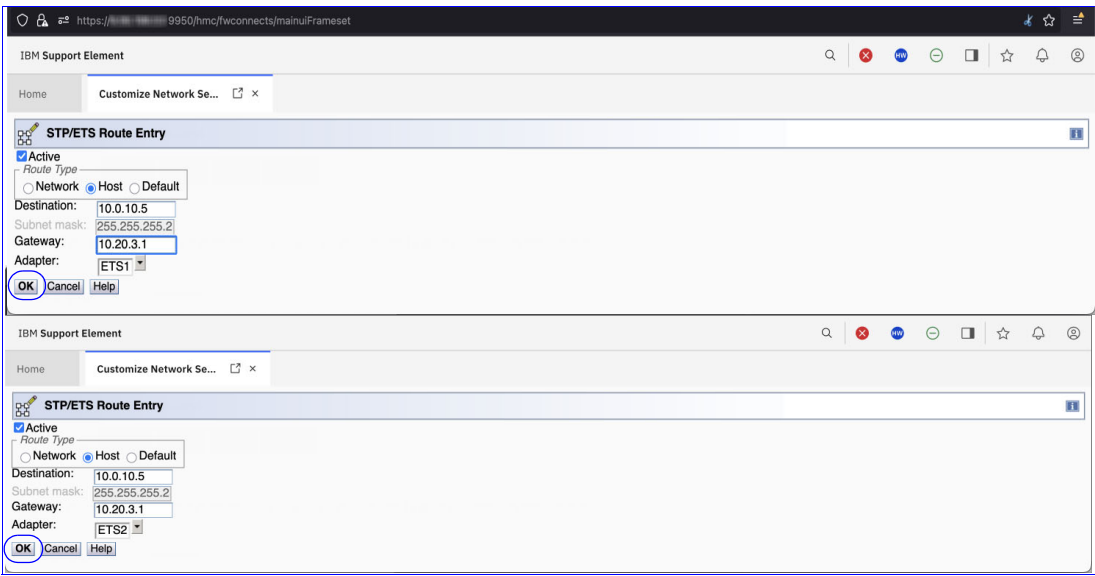

Figure 4-5 Routing information entered
5. Add routing information for each route that you want to add as shown in Figure 4-5.